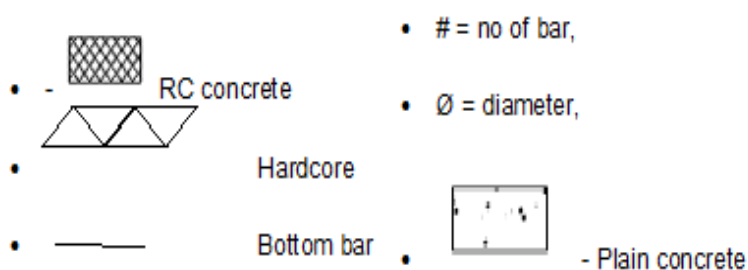

Figure 1.4 Structural symbol
1.1.3 Structural symbol see Figure 1.4